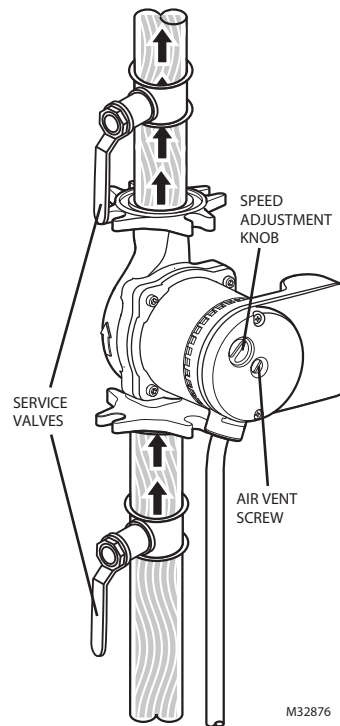

Fig. 9. Bled the circulator by loosening the air vent screw.
- Turn the speed adjustment knob clockwise to increase the speed (see Fig. 9).
Rotor/shaft stuck	<ul style="list-style-type: none"> Isolate the pump from the power supply. Remove the vent screw (see Fig. 9). Turn the shaft clockwise using a small screwdriver. Screw in the vent screw. Switch on the pump.